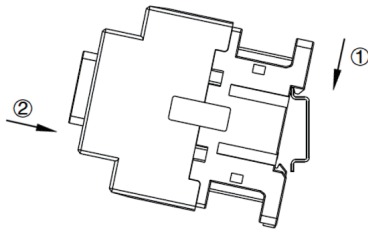

Fig. 8 Installation method
9.5 The installation and disassembly methods of the standard rail see Fig. 8 and Fig. 9: